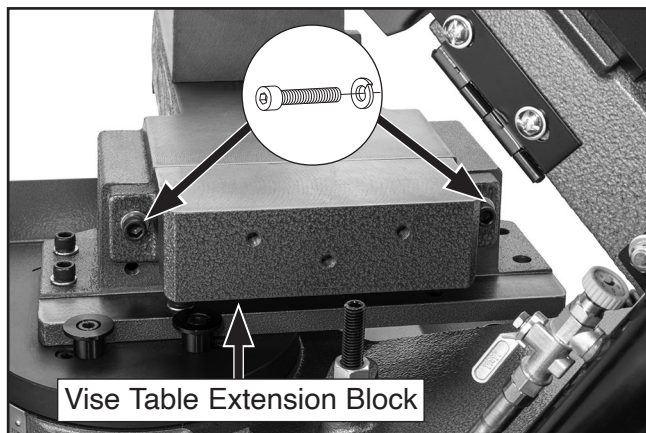

Figure 54. Vise table extension block installed.
4. Attach table extension block to vise table using (2) $\frac{3}{8}$ "-16 x $\frac{1}{2}$ " cap screws and $\frac{3}{8}$ " lock washers (see **Figure 54**).